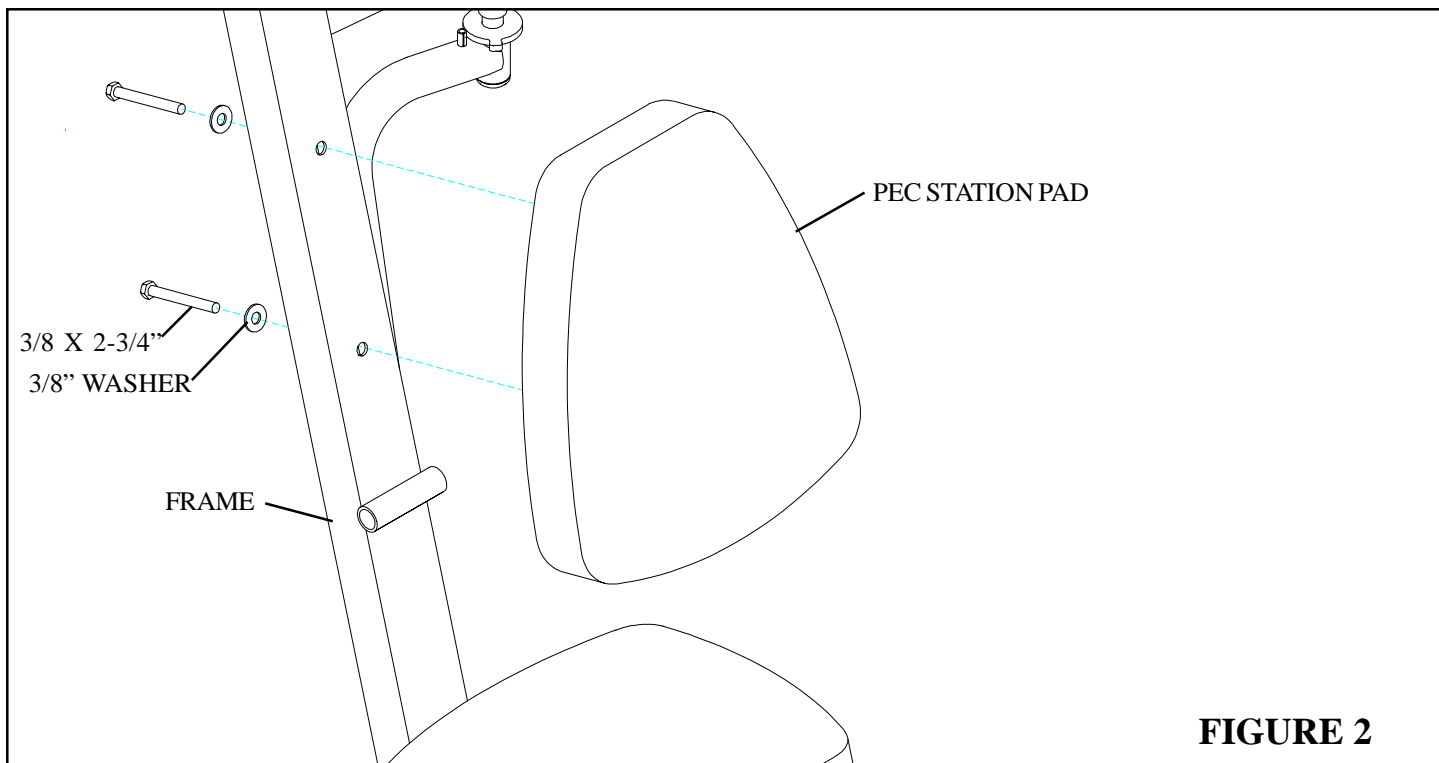

**FIGURE 1**
- **REMOVE** the **LAT CABLE**, **THREADED HOUSING**, **3/8 X 3-3/4" BOLT**, two **3/8 X 1" SPACERS** and one **3/8" LOCK NUT** from the **880 GYM SYSTEM**. See **FIGURE 1**. Save the **LAT CABLE** if you ever plan to purchase the **SECOND STACK OPTION**. Discard the **3/8 X 1" SPACERS**. (**NOTE: Remove pulleys for ease of removal.**)
- **REMOVE** the **LEG CABLE** and **THREADED HOUSING** as shown in **FIGURE 1**. Discard the **LEG CABLE**. (**NOTE: Remove pulleys for ease of removal.**)